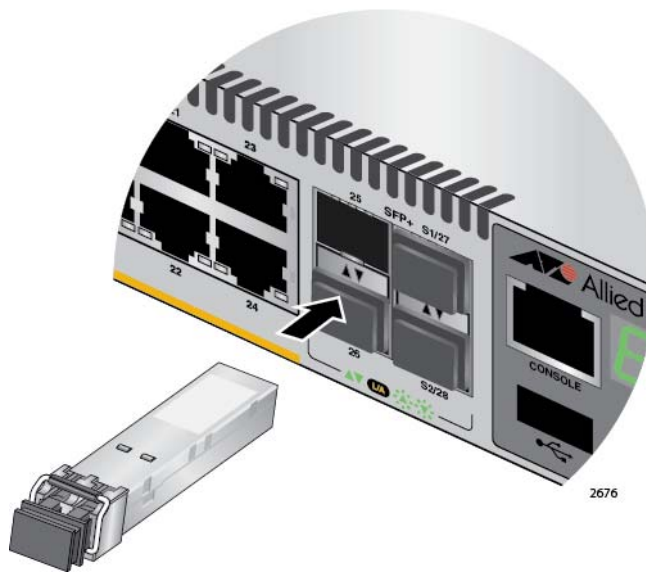

Figure 48. Installing an SFP or SFP+ Transceiver
4. Slide the transceiver into the slot until it clicks into place, as shown in Figure 48 on page 96.